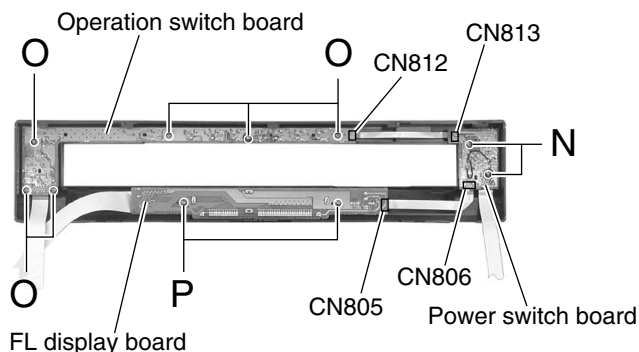

Fig.17
■ Removing the power switch board (See Fig.17)
■ Removing the operation switch board (See Fig.17)
■ Removing the FL display board (See Fig.17)